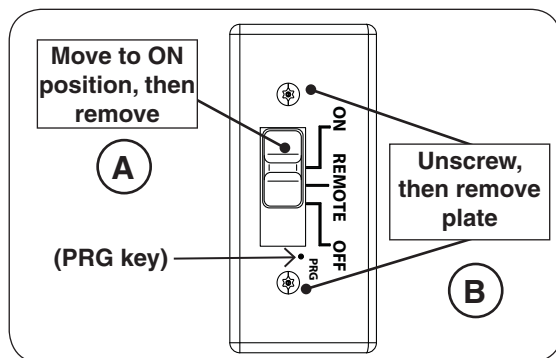
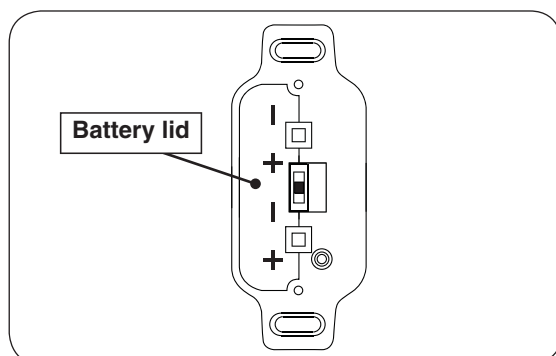

Fig. 53-3 Remove switch and plate for battery access
Fig. 53-4 Receiver battery replacement
Slide the 3-position switch on the receiver to the **ON** position, then remove the switch. Unfasten the plastic plate using a Phillips screwdriver. See Fig. 53-3. Remove the battery lid (push in tabs) and properly insert new batteries as marked (see Fig. 53-4). Re-secure the lid, the plate, and the switch.
2. Locate the **PRG** key on the receiver (reference Fig. 53-3). Use the tip of a pen or a wire clip to push the **PRG** button. The receiver will beep 3 times indicating that it is ready to synchronize with the remote transmitter.